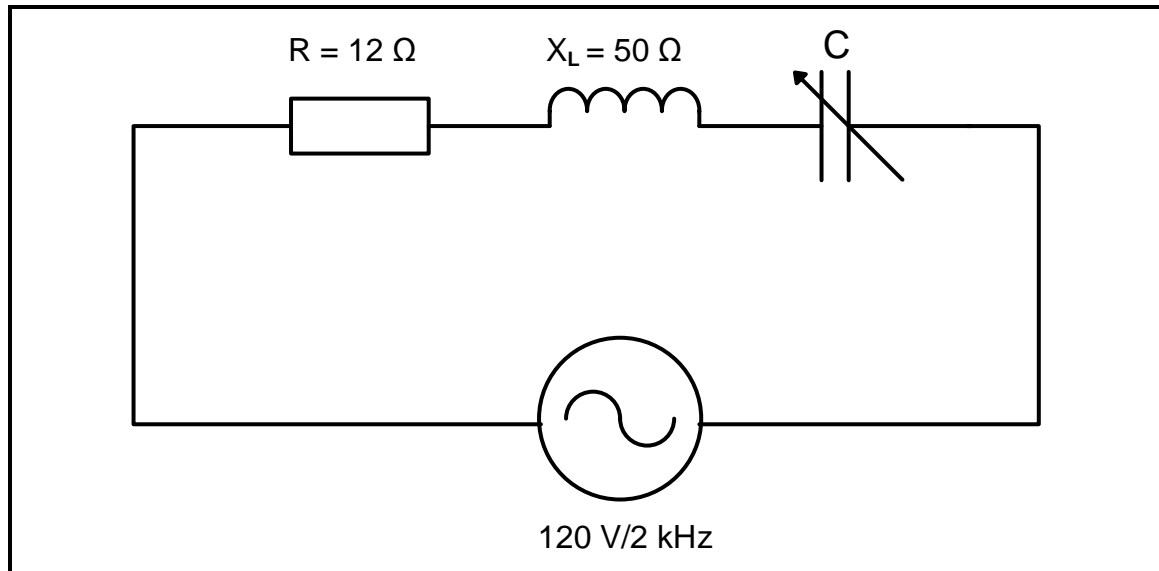

FIGURE 2.5: RLC SERIES RESONANT CIRCUIT
- 2.5 FIGURE 2.5 below shows an RLC series resonant circuit which consists of a $12\ \Omega$ resistor, an inductor with an inductive reactance of $50\ \Omega$ and a variable capacitor, all connected across a $120\ \text{V}/2\ \text{kHz}$ supply. Answer the questions that follow.